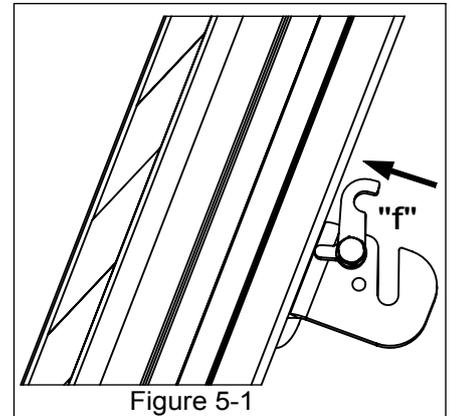

Figure 5-1
- Before install crosspieces firstly lift up the pawls - Figure 5-1 - step "f".